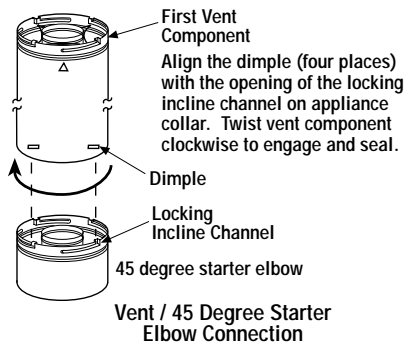

Figure 15
D. Attach vent components to 45 degree starter elbow - Secure Vent SV4.5 direct vent system components are unitized concentric pipe components featuring positive twist lock connections (see Figure 15).
To attach a vent component to the 45 degree starter elbow, align the dimpled end over the elbow, adjusting the radial alignment until the four locking dimples are aligned with the inlet of the four inclined channels on the collar (refer to Figure 15).
Secure Vent SV4.5 direct vent system components are unitized concentric pipe components featuring positive twist lock connection, (refer to Figure 15 and 16 on page 12). All of the appliances covered in this document are fitted with collars having locking inclined channels. The dimpled end of the vent components fit over the appliance collar to create the positive twist lock connection.
To attach a vent component to the the starter elbow, align the dimpled end over the collar, adjusting the radial alignment until the four locking dimples are aligned with the inlets of the four incline channels on the collar (refer to **Figure 15 on page 12**).